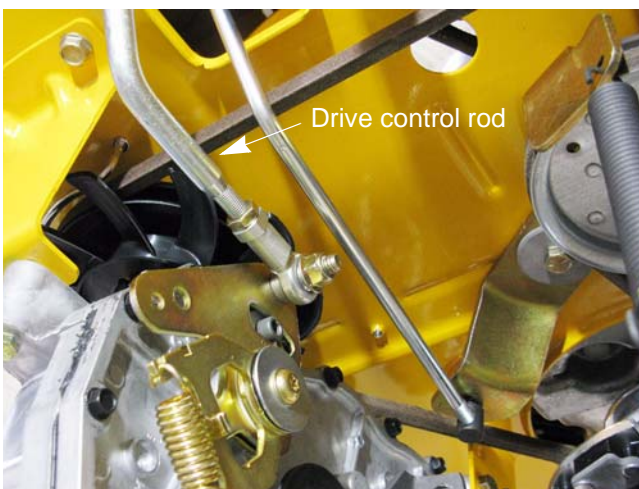

Figure 4.26
7. Disconnect the drive control rod from the transmission control arms using a pair of 9/16" wrenches. See Figure 4.26.